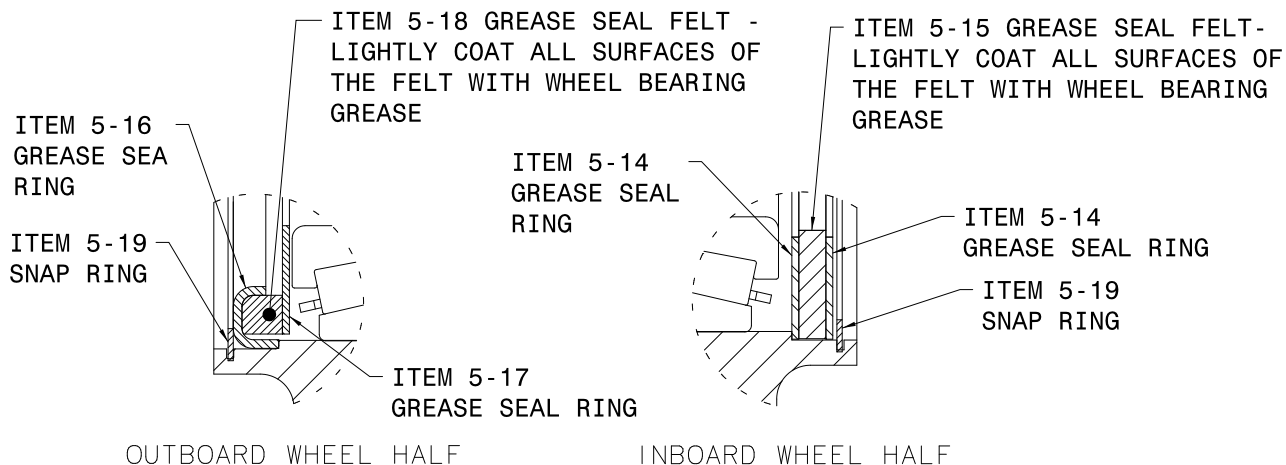

Figure 2, Installing the Grease Seal Components
d. Refer to Figure 2 and install the following components in the outboard wheel half:
e. Refer to Figure 2 and install the following components in the inboard wheel half: